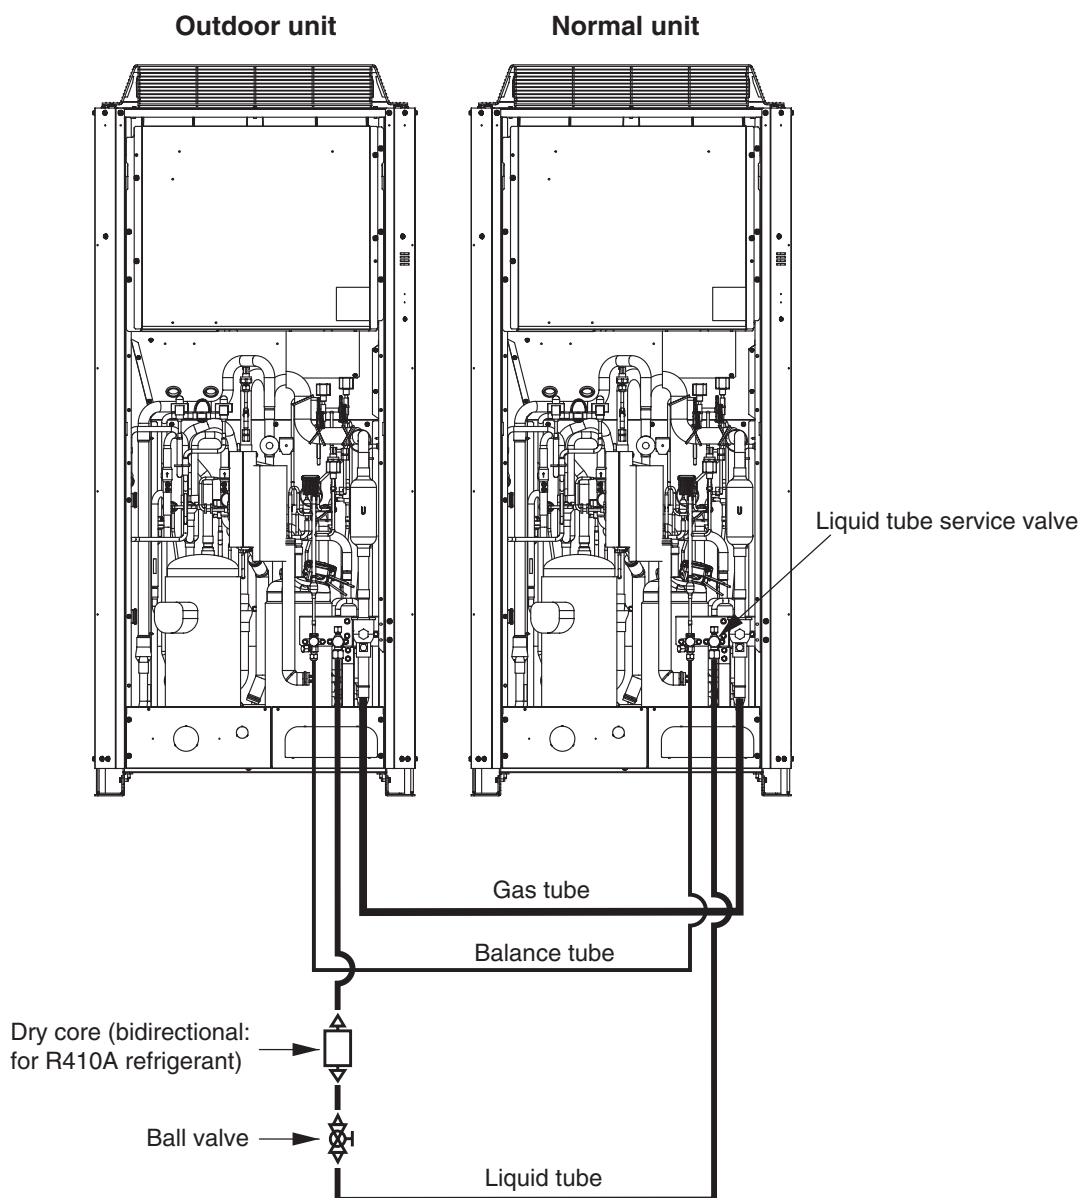

Fig. 15
- (5) As shown in Fig. 15, disconnect the tube that runs from the liquid tube valve to the ball valve on all outdoor units where dry cores will be attached. Then attach the dry cores.
- (6) At all outdoor units where dry cores are attached, pressurize with 3.3 MPa of nitrogen from the liquid tube service port and check for leaks.
- (7) After evacuating all nitrogen gas from the tubing, apply vacuum from the liquid tube service port to all outdoor units where dry cores are attached until the pressure is -101kPa (-755 mm Hg, 5 Torr) or less.
- (8) Fully open the liquid tube valve and ball valve on all outdoor units where dry cores are attached.
- (9) Operate all outdoor units for approximately 3 hours (in either Heating or Cooling mode or mixed Cooling and Heating mode).
- (10) Follow the above procedure, and replace all dry cores with new dry cores.
- (11) Operate all outdoor units for approximately 20 minutes (in either Heating or Cooling mode or mixed Cooling and Heating mode).
- (12) Follow the instructions in “2. Discharging Compressor Oil” and drain a small amount of the oil from the oil separators of all outdoor units where dry cores are attached. Check the color phase, odor, and other characteristics.
- (13) If the results show that dry core cleaning is still necessary (for example, a color phase of 4.0 or higher)*, return to Step 11 and repeat until the results are normal (including a color phase of 3.5 or less)*.
- (1) Refer to "4-2-3. Refrigerant recovery procedures (2) : Indoor unit with no ball valve equipped." Perform pump down of the refrigerant from all indoor units and inter-unit tubing to the outdoor unit side.
- (2) Cut the liquid (narrow) tube at all outdoor units where dry cores will be attached, then attach the dry cores and ball valves as shown in Fig. 15.
- (3) For the next steps, refer to (6) – (17) in **(A)** on the previous page.